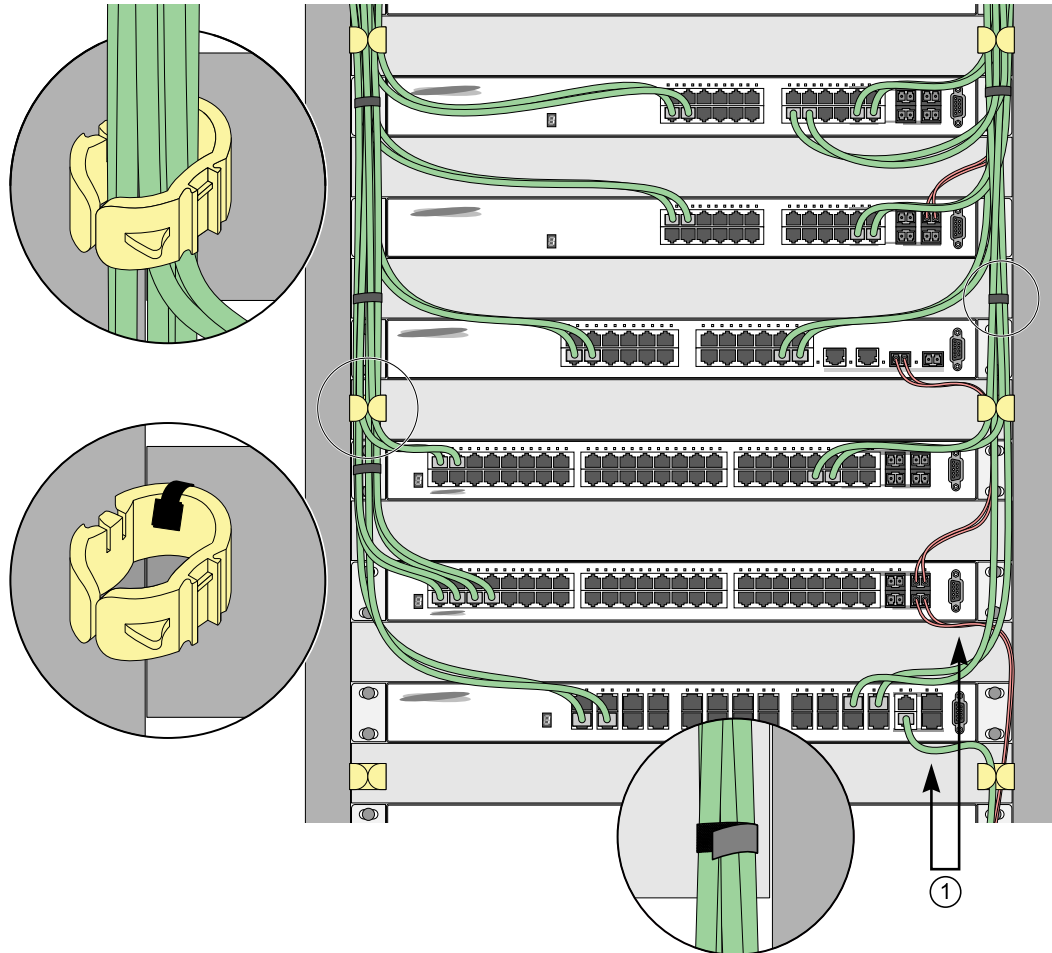

Figure 30: Properly Installed and Bundled Cable
- Provide enough slack, approximately 5 to 7.5 cm (2 to 3 in), to provide proper strain relief as shown in Figure 30 on page 46.
- When installing a patch panel using twisted pair wiring, untwist no more than 2.5 cm (1 in) of the cable to avoid radio frequency (RF) interference.